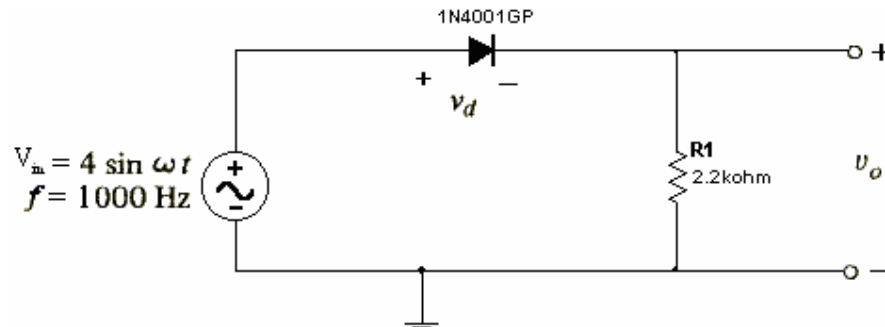

Fig.4: Half-wave Rectifier.
1. Construct the half-wave rectifier circuit shown in Figure 4. Record the measured value of the resistor. Set the function generator to a 1 KHz, $8V_{p-p}$ sinusoidal voltage using the oscilloscope.
3. Determine the theoretical output voltage V_o for the circuit of Figure 4 and sketch its waveform for one full cycle using the same sensitivities employed in step (2). Indicate the maximum and minimum values on the output waveform. Compare the results of step (2) and (3)?
6. Calculate the DC level of the half-wave rectified signal of step (2). Find the percent difference between the measured value (from step 5) and the calculated value.
7. Reverse the diode of Figure 4 and sketch the output waveform obtained using the oscilloscope. Be sure the coupling switch is in the DC position and the $V_o = 0$ V line is preset using the GND position.
8. Measure and calculate the DC level of the resulting waveform. Insert the proper sign for the polarity of V_{avg} as defined by Figure 4.